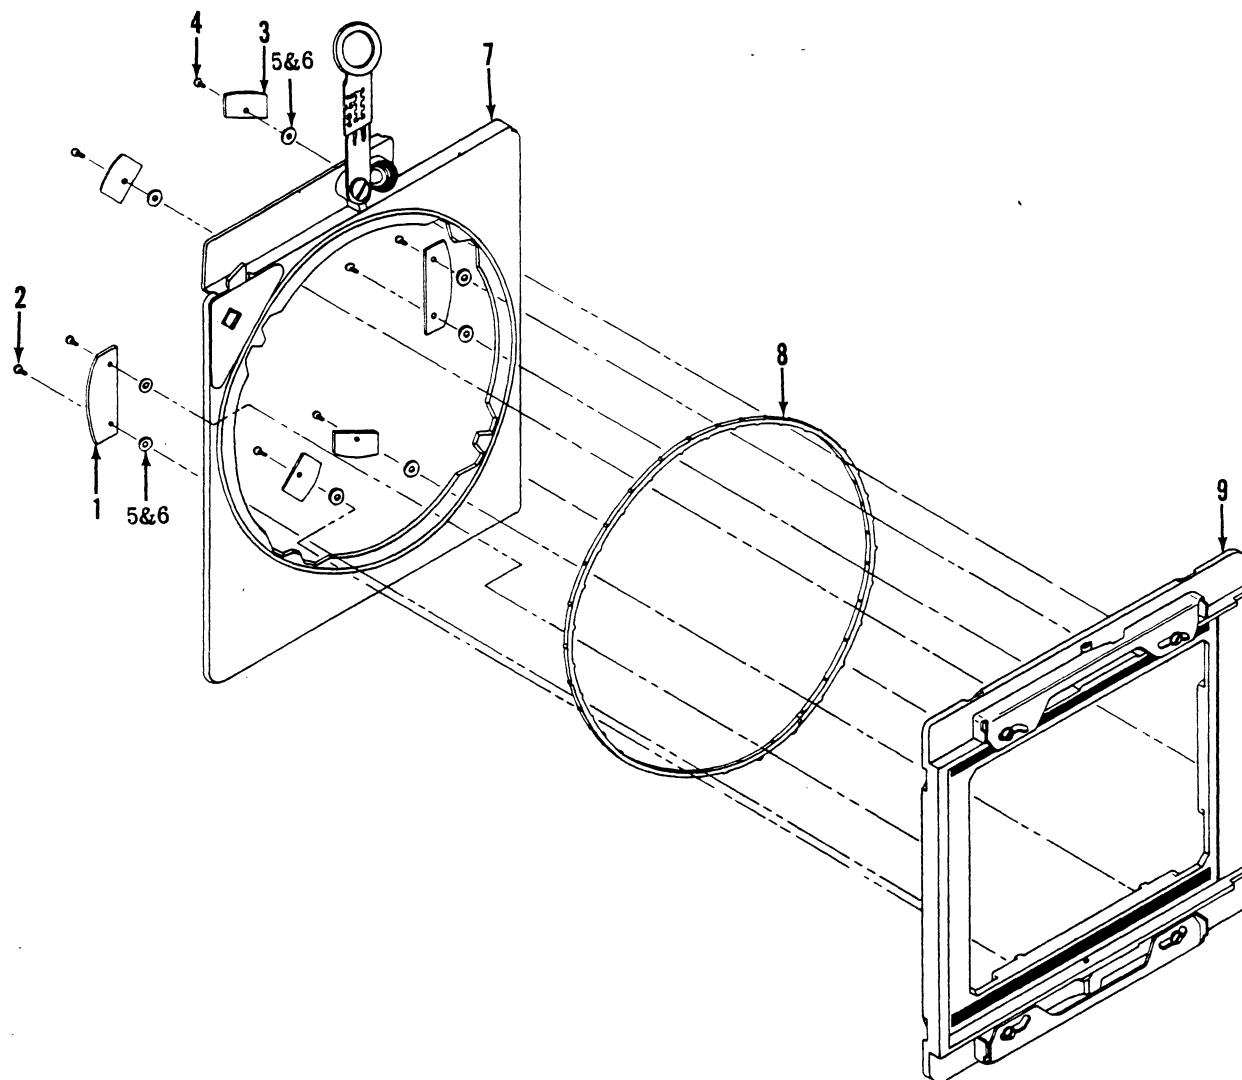
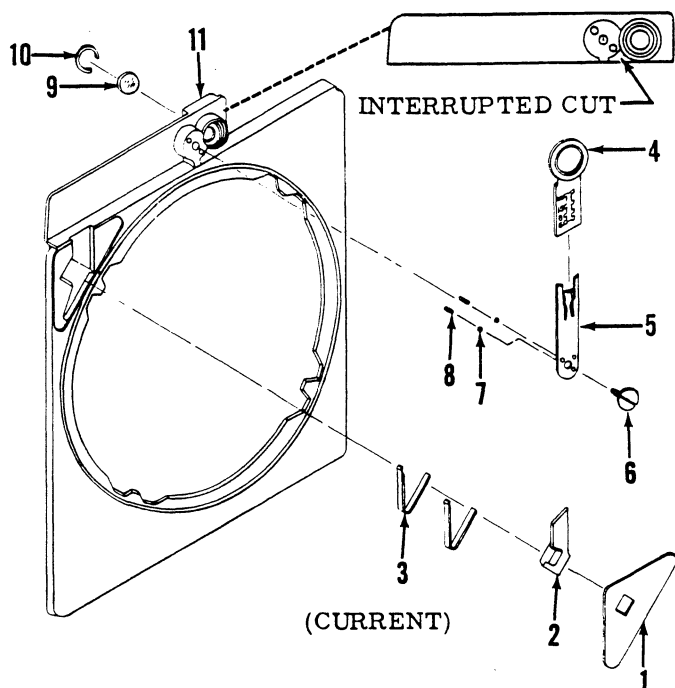
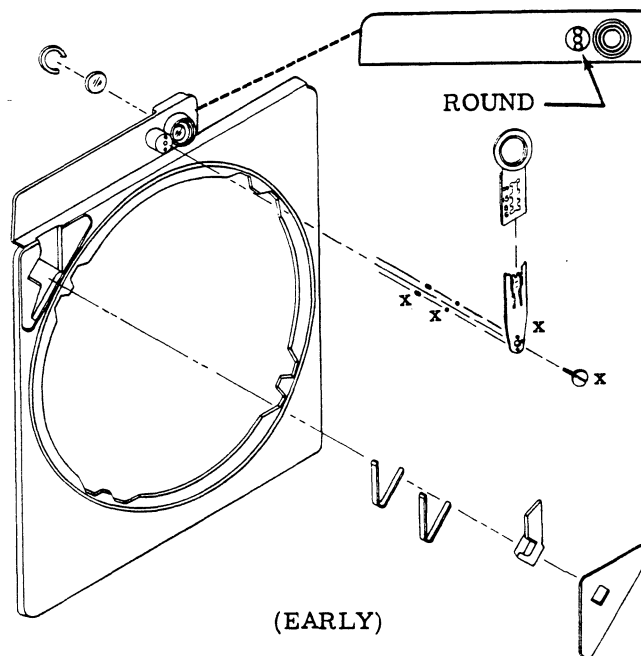

Figure 12. BACK ASSEMBLY
Figure 12A. STATIONARY FRAME COMPLETE
Figure 12B. STATIONARY FRAME COMPLETE
### X..BACK ASSEMBLY - DISASSEMBLY AND REASSEMBLY (Figure 12)
**NOTE:** A change has been made on the stationary frame as illustrated in figures 12, 12A & 12B. Disassembly and reassembly procedures remain the same. Items marked x in figure 12B are not interchangeable with corresponding items in figure 12A. When ordering replacement parts, refer to the correct parts list.
#### X. 1. STATIONARY FRAME COMPLETE - DISASSEMBLY AND REASSEMBLY (Figure 12A)